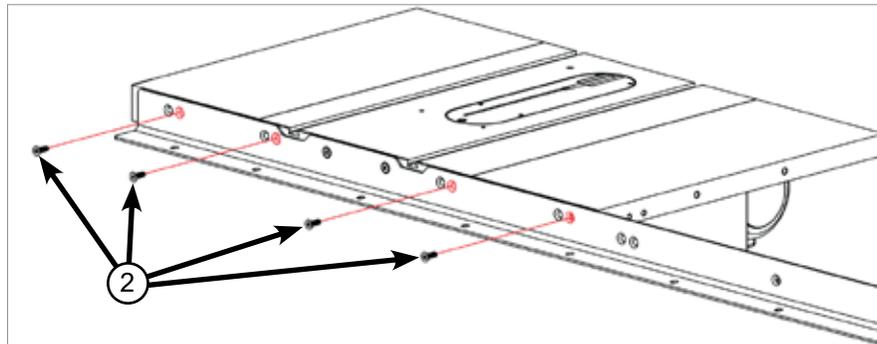
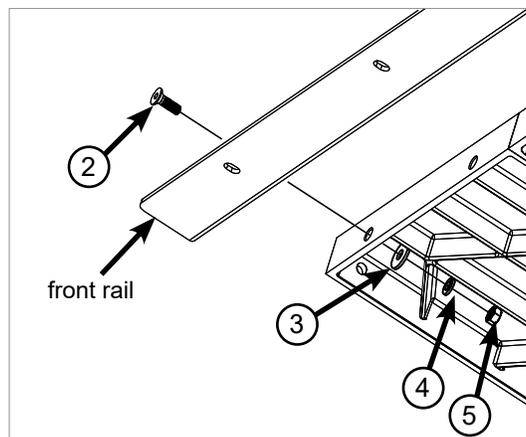

Fig. 2a
Fig. 2b
2. Take four more M8 x 25 countersunk socket head bolts and insert them through the four open holes in the front rail and table (see Fig. 2a). Place an M8 washer and an M8 lock washer on the threaded end of each of the bolts and then thread an M8 hex nut on each bolt (see Fig. 2b). Hand tighten the nuts; do not fully tighten them.